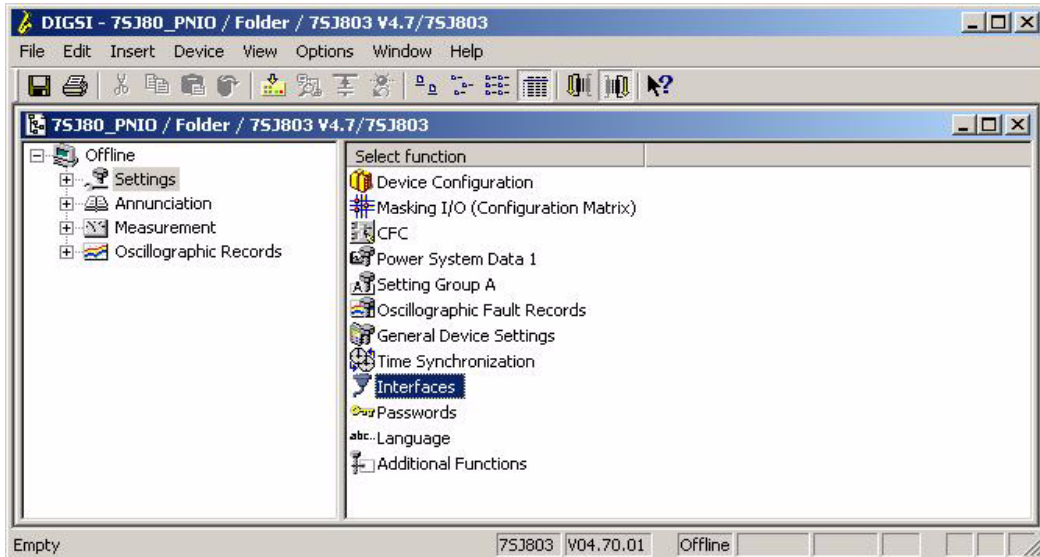

Figure 3-12 Settings
- ✧ In the **Settings** dialog (see Figure 3-12), double-click the function **Matrix I/O (Configuration Matrix)**. The **Settings - Masking I/O (Configuration Matrix)** dialog opens.